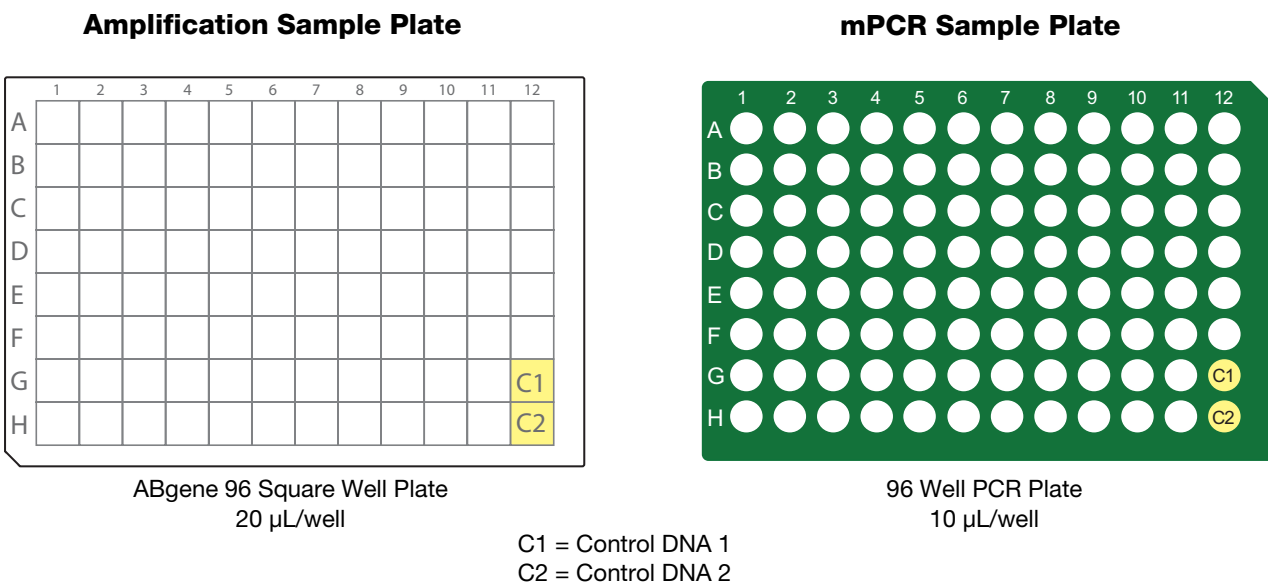

Figure 3 Aliquoting genomic DNA
1. Aliquot 20 μL of each diluted gDNA sample to the ABgene deep well plate as shown in Figure 3.
1. Aliquot 10 μL of each diluted gDNA sample to the 96-well PCR plate as shown in Figure 3.